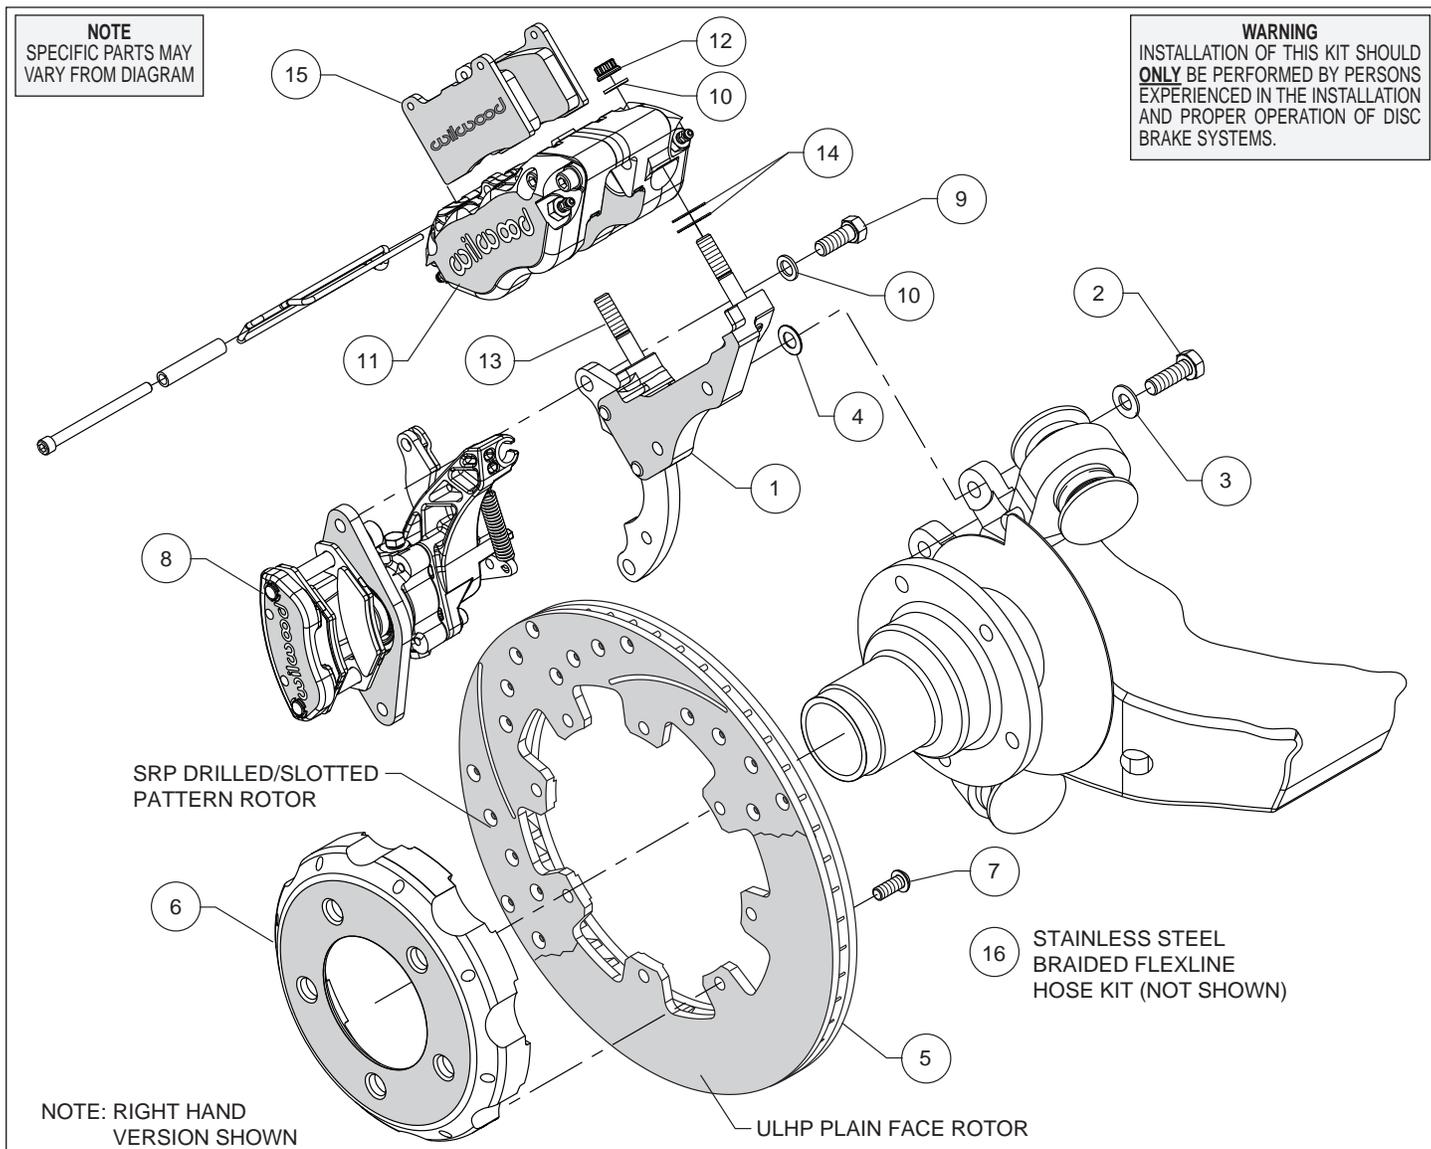

Figure 1. Typical Installation Configuration
Assembly Instructions (numbers in parenthesis refer to the parts list and Figure 1 on the preceding pages):
- The caliper mount bracket (1) should initially be installed with clean, dry threads on the mounting bolts. Orient the bracket as shown in Figure 1, and Photo 1, and install using bolts (2) and washers (3). Initially place one .030" thick shim (4) on each bolt between the bracket and upright, Figure 1. Temporarily tighten the mounting bolts. **NOTE:** *The bracket must fit squarely against the mount bosses on the upright.* Inspect for interference from casting irregularities, machining ridges, burrs, etc. Later, after the caliper alignment has been checked, the mount bolts will be secured using red *Loctite*® 271.
- Orient the rotor (5) and the hat (6) as shown in Figure 1 and Photo 2. Attach rotor to hat using bolts (7). Using an alternating sequence, apply red *Loctite*® 271 to the threads, and torque to 25 ft-lbs.
- Lubricate the caliper mounting studs (13) with lightweight oil. Initially place two .035" thick shims (14) on each stud as shown in Figure 1 and Photo 5. Mount the DynaPro caliper (11) onto the bracket (1) using lock nuts (12) and washers (10), Figure 1. Temporarily tighten the lock nuts and view the rotor through the top opening of the caliper. The rotor should be centered in the caliper, Photo 6. If not, adjust by adding or subtracting shims (4) between the bracket and the mounting bosses. Always use the same amount of shims on each of the two mounting bolts. Once the caliper alignment is correct, remove the bracket mounting bolts (2) one at a time, apply red *Loctite*® 271 to the threads, and torque to 35 ft-lb.
- Insert the brake pads (15) into the caliper with the friction material facing the rotor (5), as shown in Figure 1 and Photo 7. Check that the top of the brake pad is flush with the outside diameter of the rotor, Photo 8. If not, adjust by adding or subtracting shims (14) between the caliper and the bracket. After the caliper pad height is set, torque the caliper lock nuts (12) to 30 ft-lb. Secure the pads in place using the pad clip retainer as well as the center bridge pad retainer tube, bolt, and locknut, Photo 9. The locknut should be snug without play in the bolt or tube. Be cautious not to over tighten.
- Orient the parking brake caliper (8) as shown in Figure 1 and Photo 10, and mount onto the caliper mounting bracket (1) using bolts (9) and washers (10), Figure 1. Apply red *Loctite*® 271 to bolt threads, and torque to 35 ft-lb.